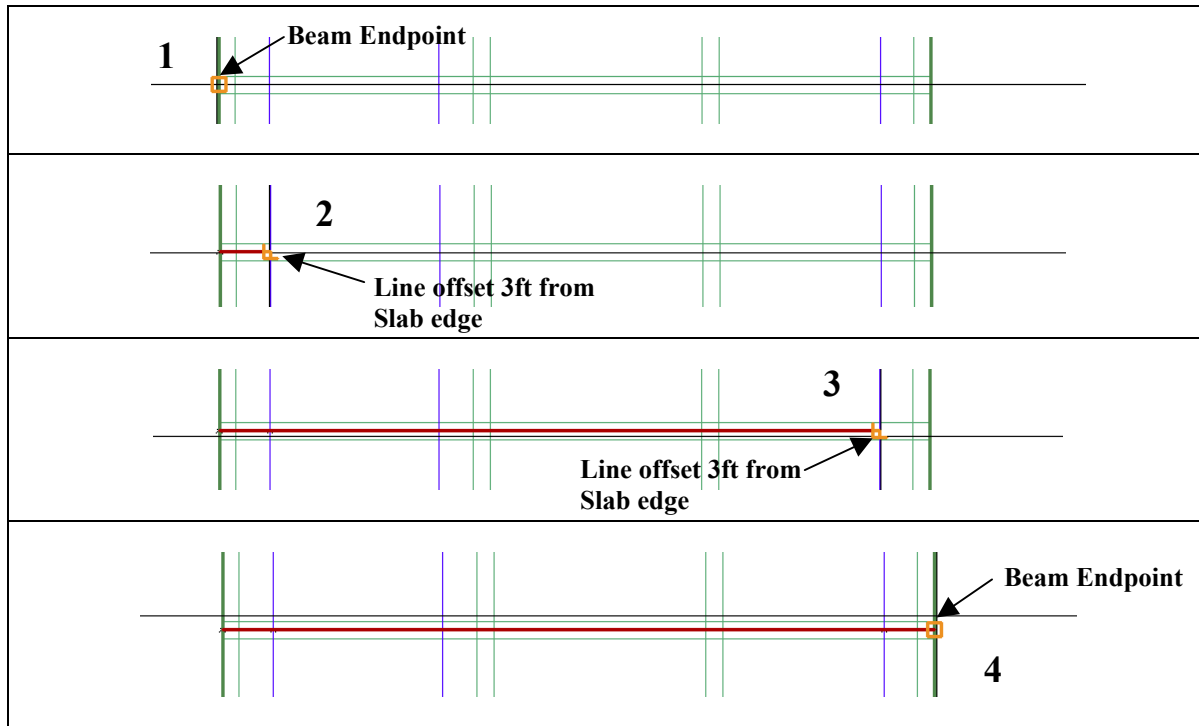

FIGURE 2.2.1-2 SNAPPING SEQUENCE FOR BEAM TENDONS
8. Select the *Shape/System/Friction* tab as shown in **Fig. 2.2.1-3**. Enter the following parameters for each span, then click on the  button to accept the changes: